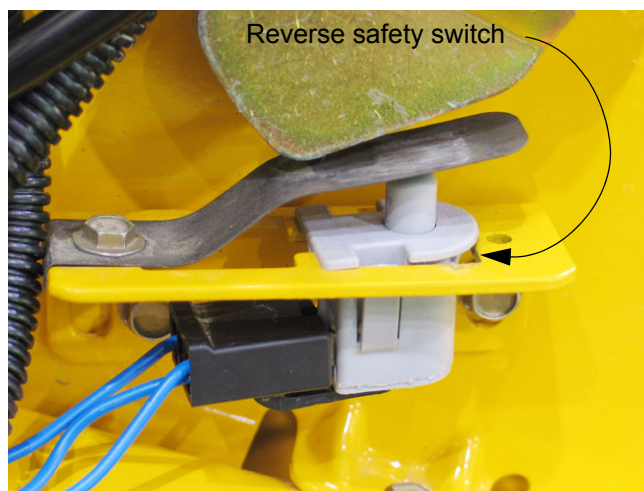

Figure 15.4
15.4. The REVERSE SWITCHES are located just under the lapbars in the console. See Figure 15.4.